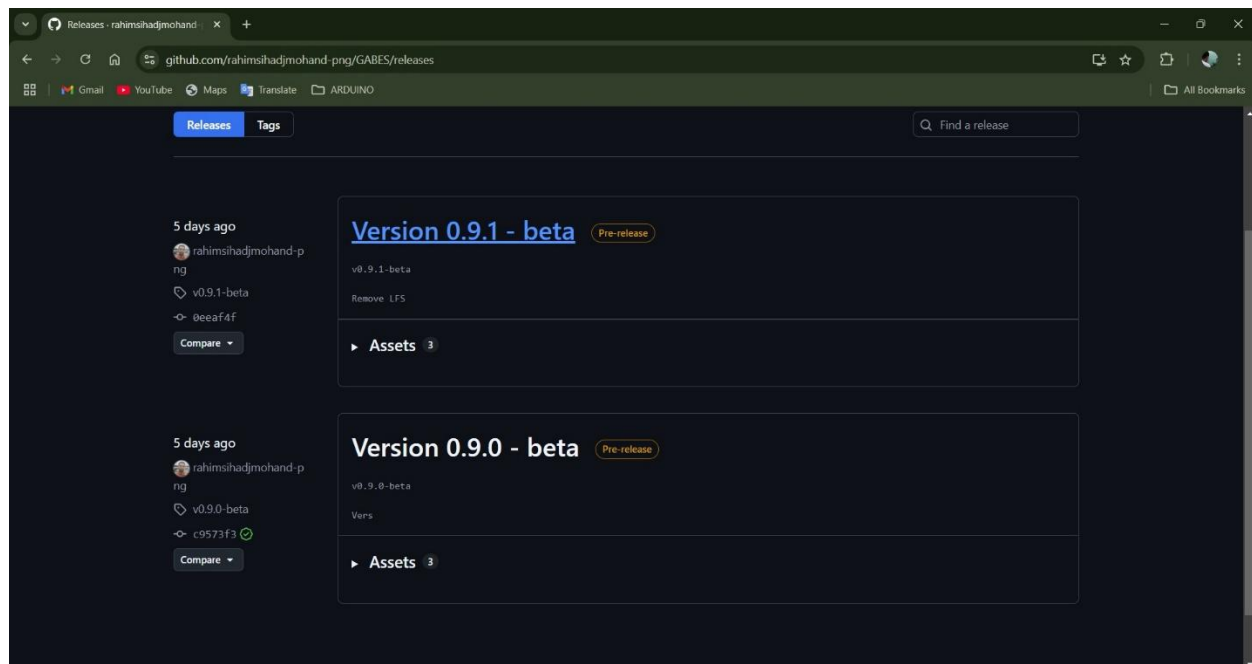

Figure 2: The available releases
2. All available releases will be displayed (see Figure 2).
In the **modelling phase**, the Client Area allows interactive selection of triangular mesh elements, vertices, and DOF nodes, which can be useful for various purposes. It also displays several objects (see Figure 2):